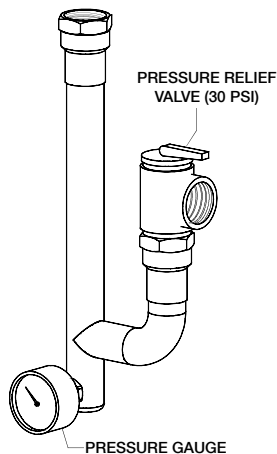

Figure 6.1: Pressure Relief Assembly
**Pressure Relief Assembly** – A pipe assembly with a pressure gauge and pressure relief valve. This fixture requires a 3" clearance radius from the gas and piping system (See Fig. 6.1).